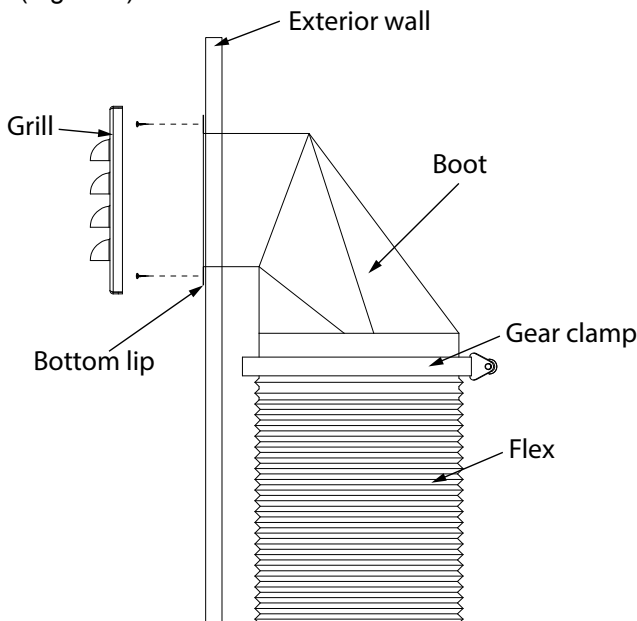

Figure 4. Boot and grill installation
- Keeping both boots at the exact same height from the unit and in line vertically with the 6" started collars on the unit; cut a 4"x10" opening into the exterior wall. Insert the 4"x10" opening of the boot into the cutout in the exterior wall with the 6" round opening of the boot inside the structure and facing down. Fold the lips of the 4"x10" boot out and secure to the exterior wall. (Figure 4)